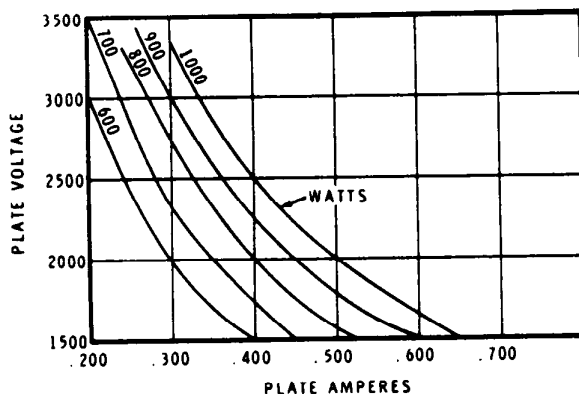

Figure 3-4
- () Alternately adjust the TUNE, LOAD, and exciter drive controls for the desired input. Refer to Figure 3-4. The meter readings at 1 kw input will be approximately: